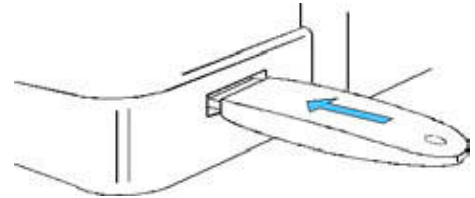

Figure IS-21 USB Stick
2. Insert the USB stick. Refer to Figure IS-21.